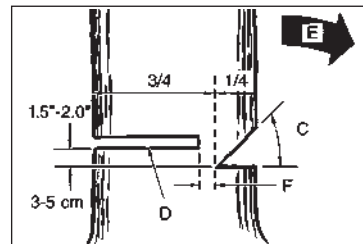

Fig. 11B
WARNING: Never walk in front of a tree that has been notched. Make the felling cut (D) from the other side of the tree and 1.5 - 2.0 inches (3-5 cm) above the edge of the notch (C) (Fig. 11B)